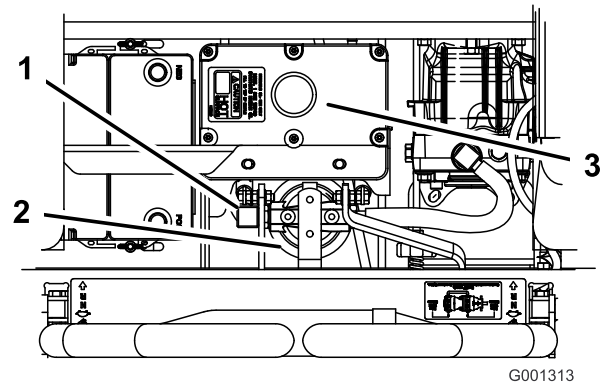

Figure 78
4. Remove the righthand hydraulic line that comes into the adapter (Figure 78).
6. Install the righthand hydraulic line to the adapter (Figure 78).